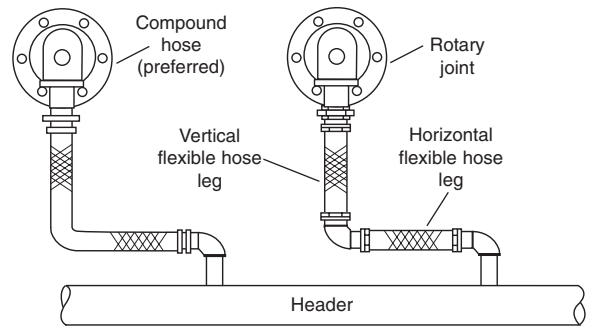
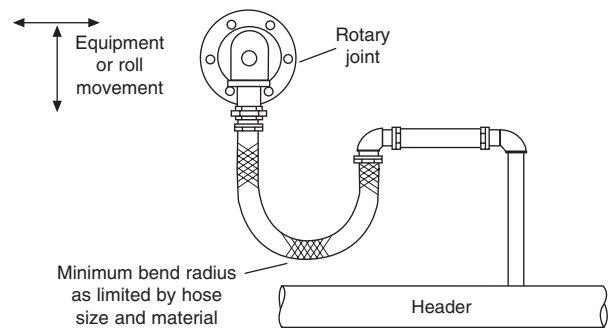

Figure 1
Figure 2
**Figure 1** – The vertical piece of hose allows for header expansion and misalignment of header connection relative to rotary joint connection within normal piping tolerances. Also flexible hose tolerance in length is compensated for to a reasonable amount. The horizontal leg of flexible hose allows for thermal and hydraulic expansion of vertical hose leg without exerting large forces on rotary joint.
**Figure 2** – Another method is shown to provide flexibility of hose length, piping and roll movement vertical or horizontal. Generally the hose must be longer than needed for Figure 1 due to the minimum bend radius allowable, which is dependent on size and material of hose and amount of equipment movement.